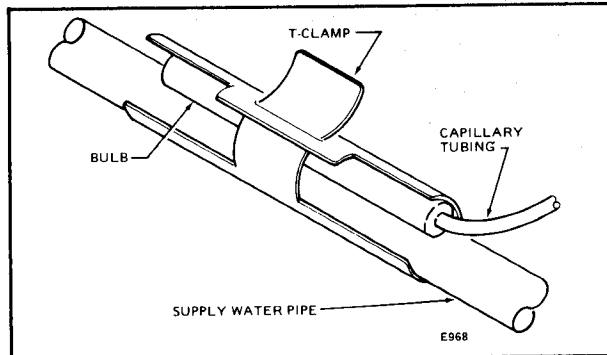

FIG. 4—BULB STRAPPED TO SUPPLY WATER PIPE WITH 105900 T-CLAMP.
- T678C,G—install bulb in water supply where water of average temperature will circulate around bulb. The bulb may be strapped to a water pipe using an accessory clamp (see Fig. 4).